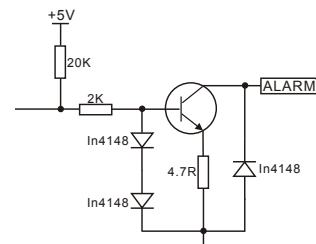

Figure 1
- 1.Alarm output interface (See Figure 1)